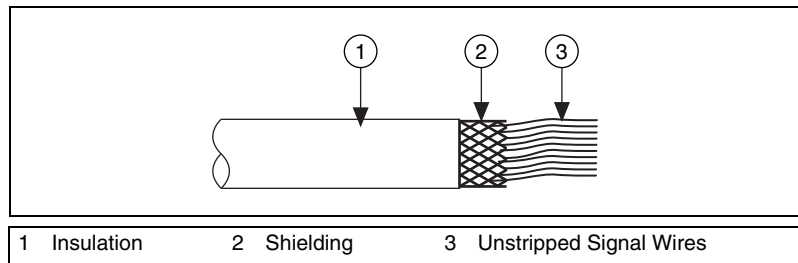

Figure 6. Unstripped Exposed Wire for RJ-50 (10p10c) Modular Plug Connection
3. Expose 12.7 to 15.9 mm (0.500 to 0.625 in.) of signal wires without stripping the insulation as shown in Figure 6. Do not strip the insulation from the exposed signal wires.